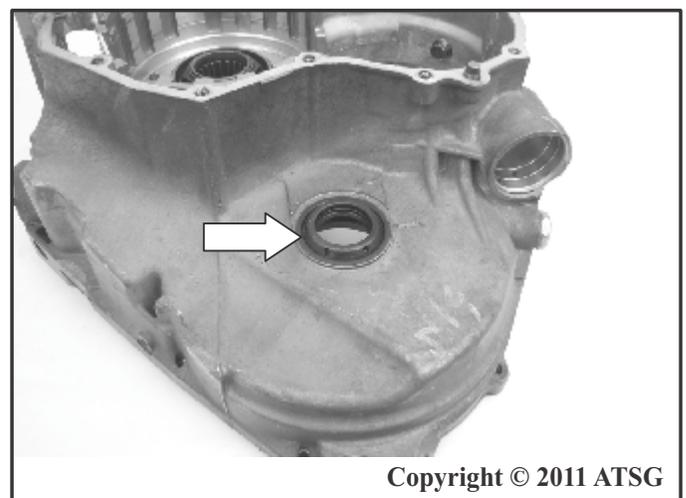

Figure 76
5. Using SST J 45000 or other adequate seal puller, remove the automatic transmission axle seal as shown in Figure 76.